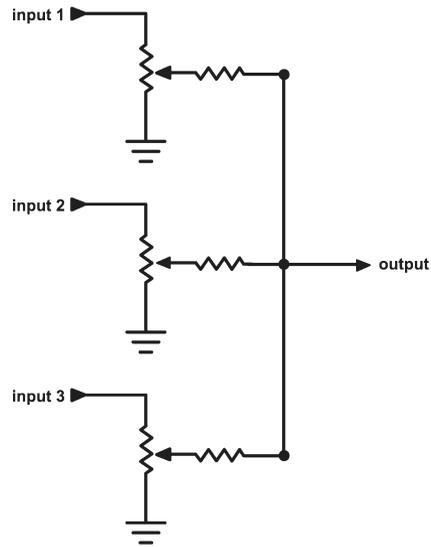
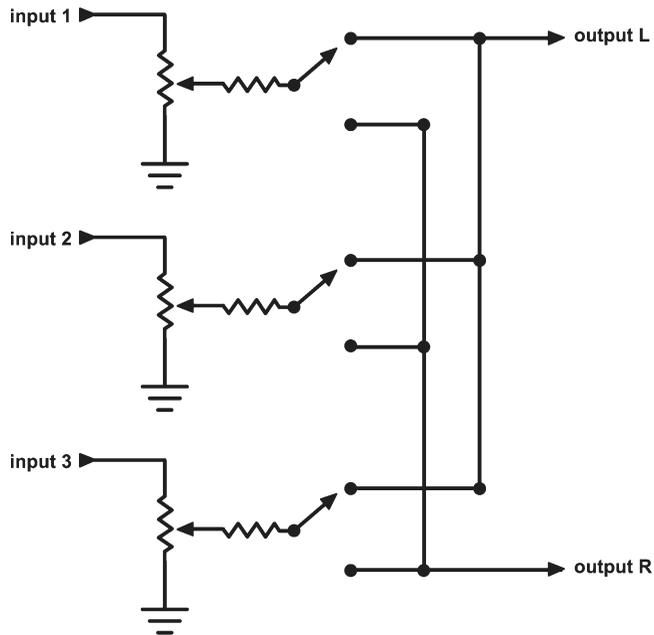

Figure 27.1 Basic three-input mono mixer.
Figure 27.3 Basic three-input stereo mixer.
Now that your collection of noisemakers is growing, a simple mixer might prove useful. Here are some completely *passive* circuit designs—they use no batteries, no chips or other active components; they need no on/off switches or circuit boards. Even if you already have a “real” mixer, this is a very convenient way to expand its inputs. The basic schematic is shown below in figure 27.1.
You can expand the circuit in figure 27.1 to accommodate any number of inputs, simply by adding another jack, pot, and resistor for each new input signal. By adding some switches and another output jack you can make a stereo version of the same circuit (figure 27.3). Each summing resistor is connected to the switch’s Common terminal (C); the Normally Open terminal (NO) is connected to one output jack, and the Normally Closed (NC) to the other. Throwing the switch swaps the signal between the left to right outputs. It’s a kind of binary panner, alternating between hard-left and hard-right, with no gradations in between—crude, but much simpler than adding a proper pan-pot.
You will notice that the design is similar to that of our basic mixer in figure 27.1, but here each input signal is connected to three pots instead of one, and we have three output